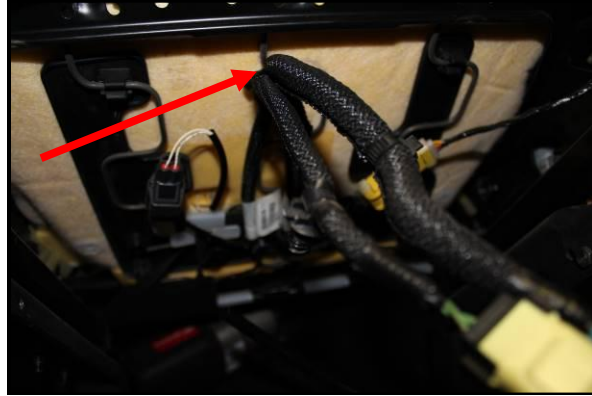

Figure 9
- 2-L) If equipped, zip tie the cables for the yellow plug(s) to the bottom of the seat as shown in Figure 9. Do not completely tighten the zip tie (leave some slack for cables to move).